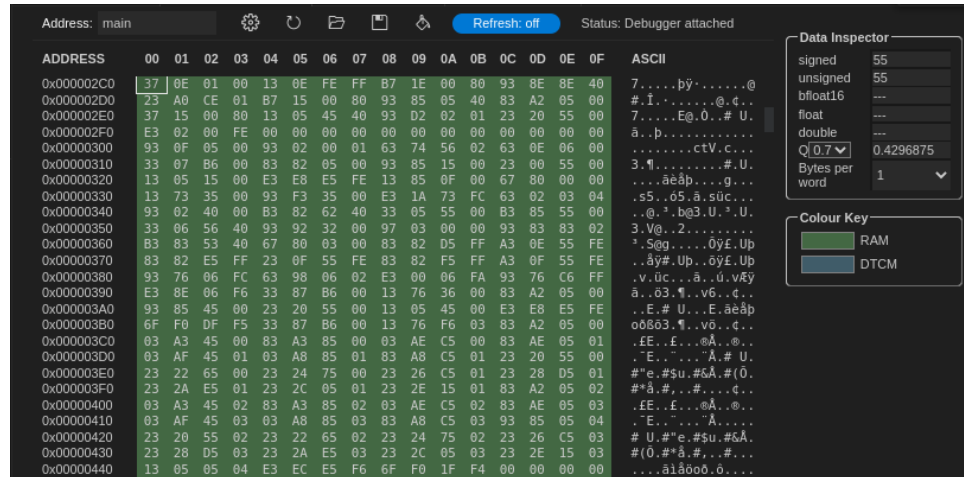

Figure 50: Catapult Studio Memory Window
- d. Choose the address of one of the instructions in your code, as displayed in the Disassembly window, and type it into the Start Address box of the memory window. You should see the same data as shown in the Disassembly Window (Figure 50).